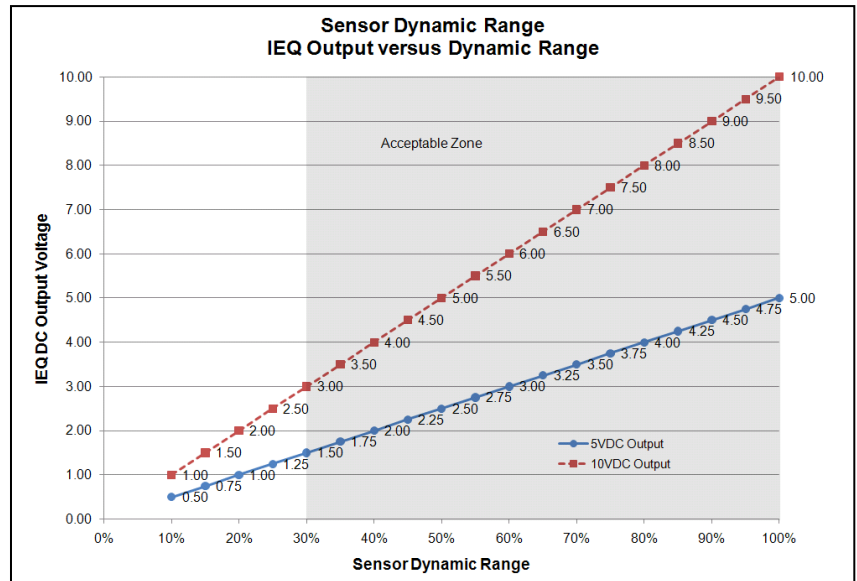

Figure 7: Acceptable Dynamic Range Output
- The IEQ algorithm requires a 30% dynamic range for proper operation. Sensors reporting 30% or less dynamic range should be considered for replacement. (see Figure 7)